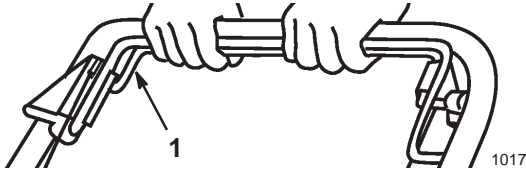

Figure 11
1. To operate the self-propel drive, squeeze the self-propel drive bail against the handle and hold it (Fig. 11).